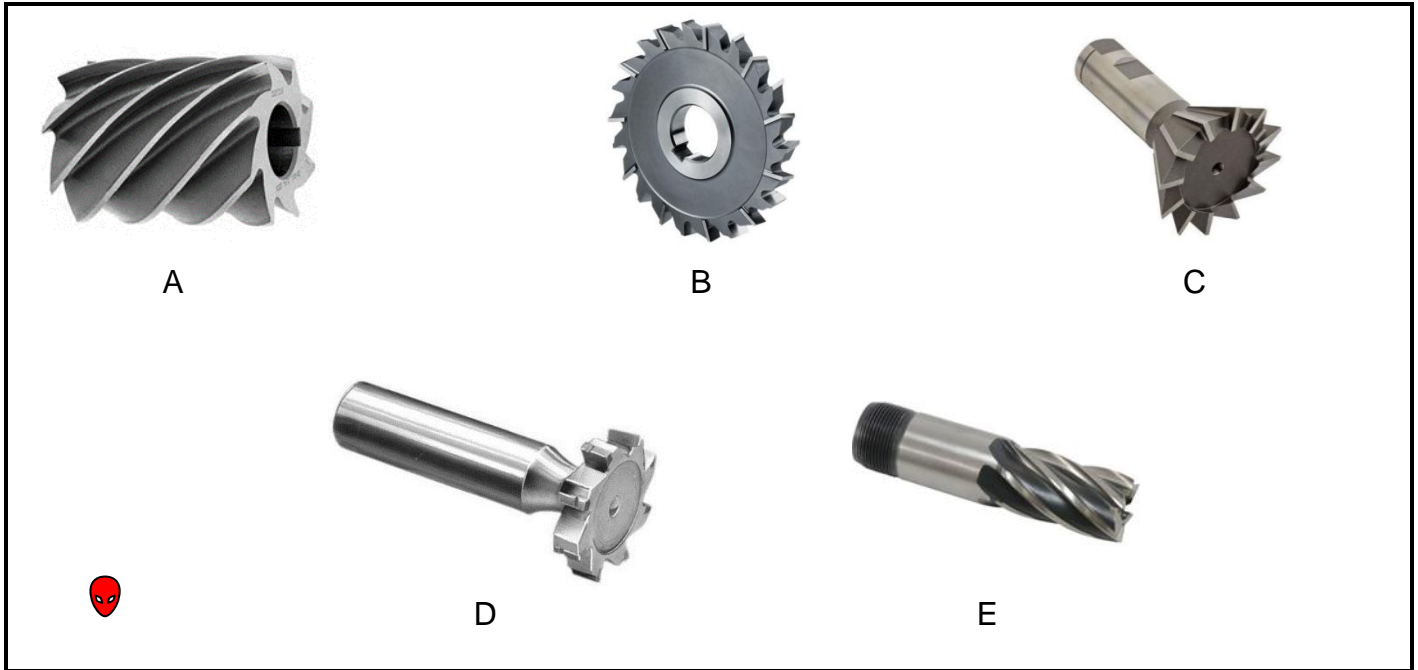

FIGURE 4
12.1 FIGURE 4 shows pictures of milling cutters. Name the milling cutters writing only the answer next to the letter (A–E) in the ANSWER BOOK.